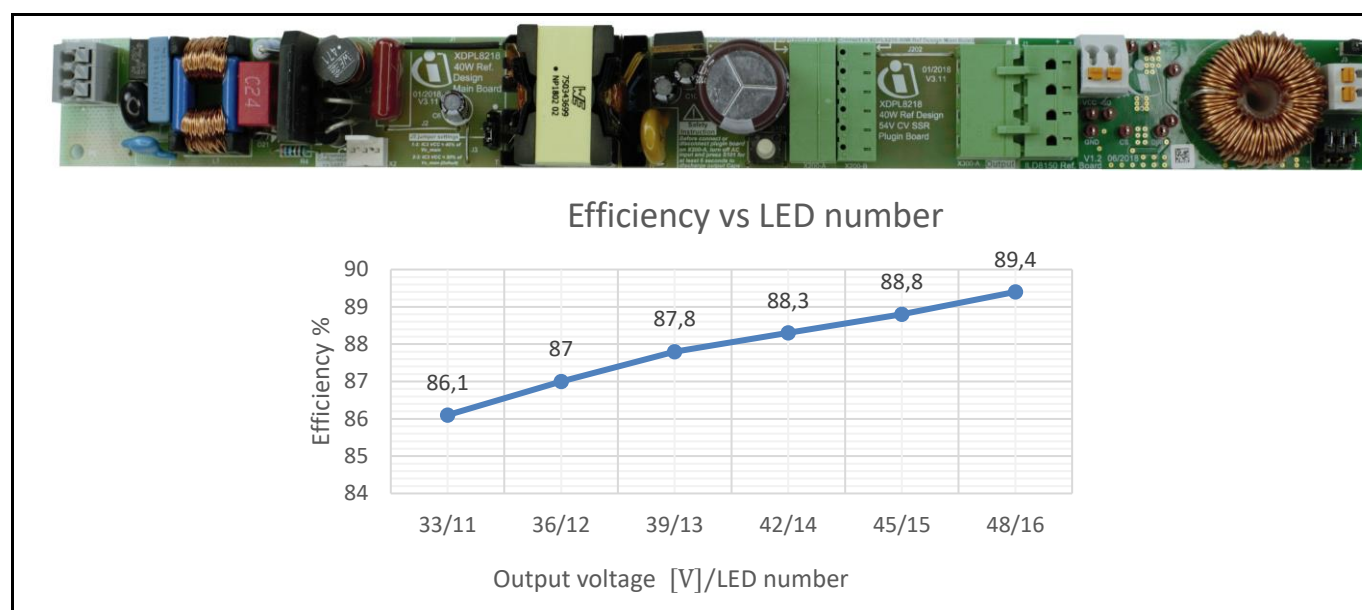

Figure 27 Efficiency of combined stages vs number of LEDs
The ILD8150 IC operates as the secondary stage along with a primary-stage flyback or LLC converter. For example, it may be used together with a PFC flyback based on XDPL8219. XDPL8219 is a digitally configurable Secondary-Side Regulated (SSR) controller suitable for PFC flyback operating in Constant Voltage (CV) mode. The XDPL8219 board operates with a universal AC input of 90 V_{rms} to 305 V_{rms} and provides a constant voltage of 54 V. So the ILD8150 hysteretic buck converter operates with a fixed input voltage of 54 V and has constant output current. ILD8150 can provide a wide dimming range from 0.5 to 100 percent, with high accuracy across all conditions. It dumps 100 or 120 Hz ripples from the primary side, so the output current is pure DC, which eliminates flicker. The efficiency of such a system is shown in Figure 27.